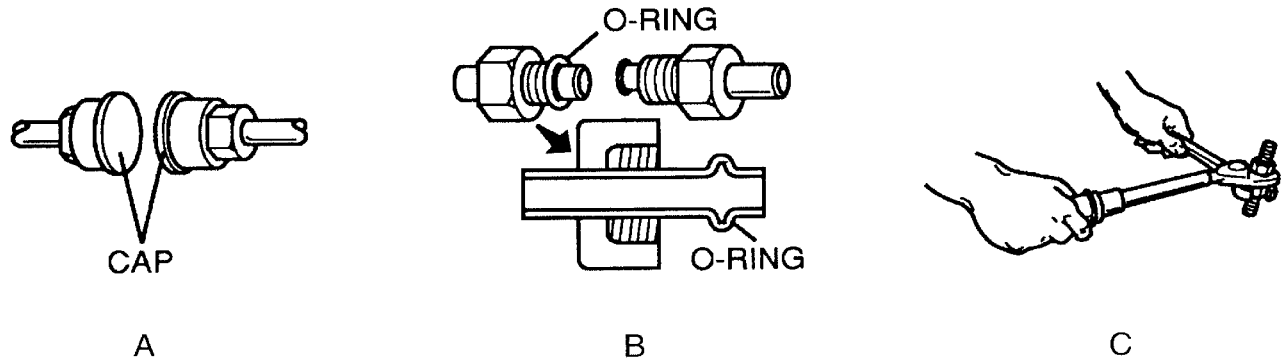

Figure 1
- Do not remove the seal caps until just before connecting components (refer to "A" in Figure 1 below).
- Be sure the O-ring is on the tube end and apply a small amount of refrigerant lubricant to the O-ring before assembling (refer to "B" in Figure 1 below).
- When tightening fittings, be sure to use a torque wrench and back up wrench (refer to "C" in Figure 1 below).